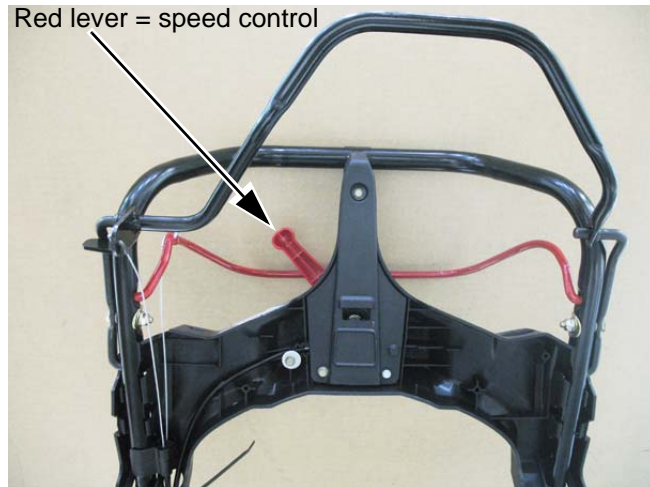

Figure 5.1
1. The red lever on the control panel applies tension to a cable. See Figure 5.1.